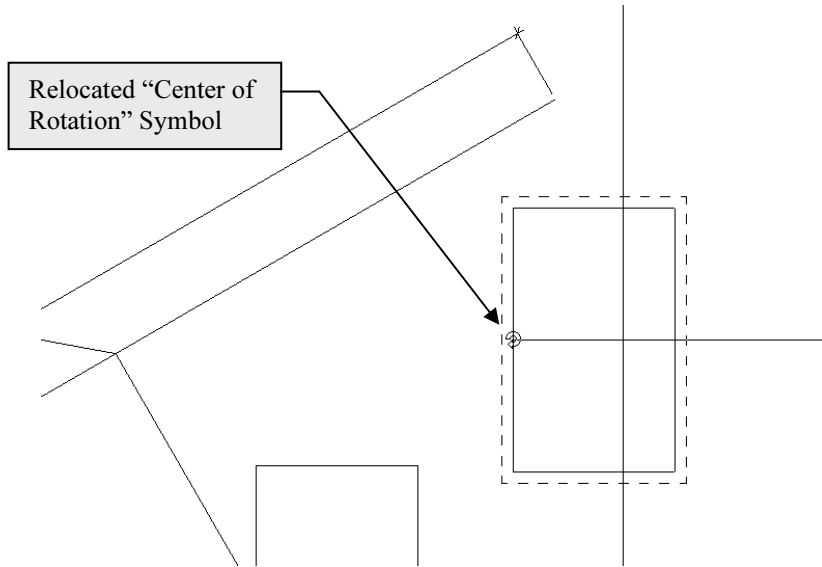

Figure 3-3.9 Rotate tool; relocated "center of rotation"
19. Click and drag the “Center of Rotation” symbol to the left and *Snap* to the midpoint of the vertical line (Figure 3-3.9).